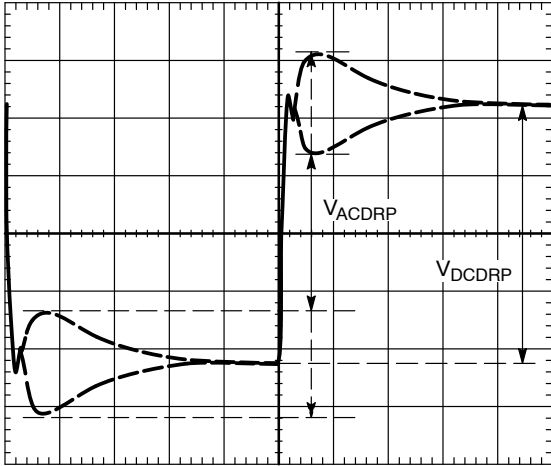

Figure 14. AC Load Line Waveform
- Measure the output waveform (use dc offset on scope to see the waveform). Try to use a vertical scale of 100 mV/div or finer. This waveform should look similar to Figure 14.
- Use the horizontal cursors to measure  $V_{ACDRP}$  and  $V_{DCDRP}$  as shown in Figure 14. Do not measure the undershoot or overshoot that happens immediately after this step.